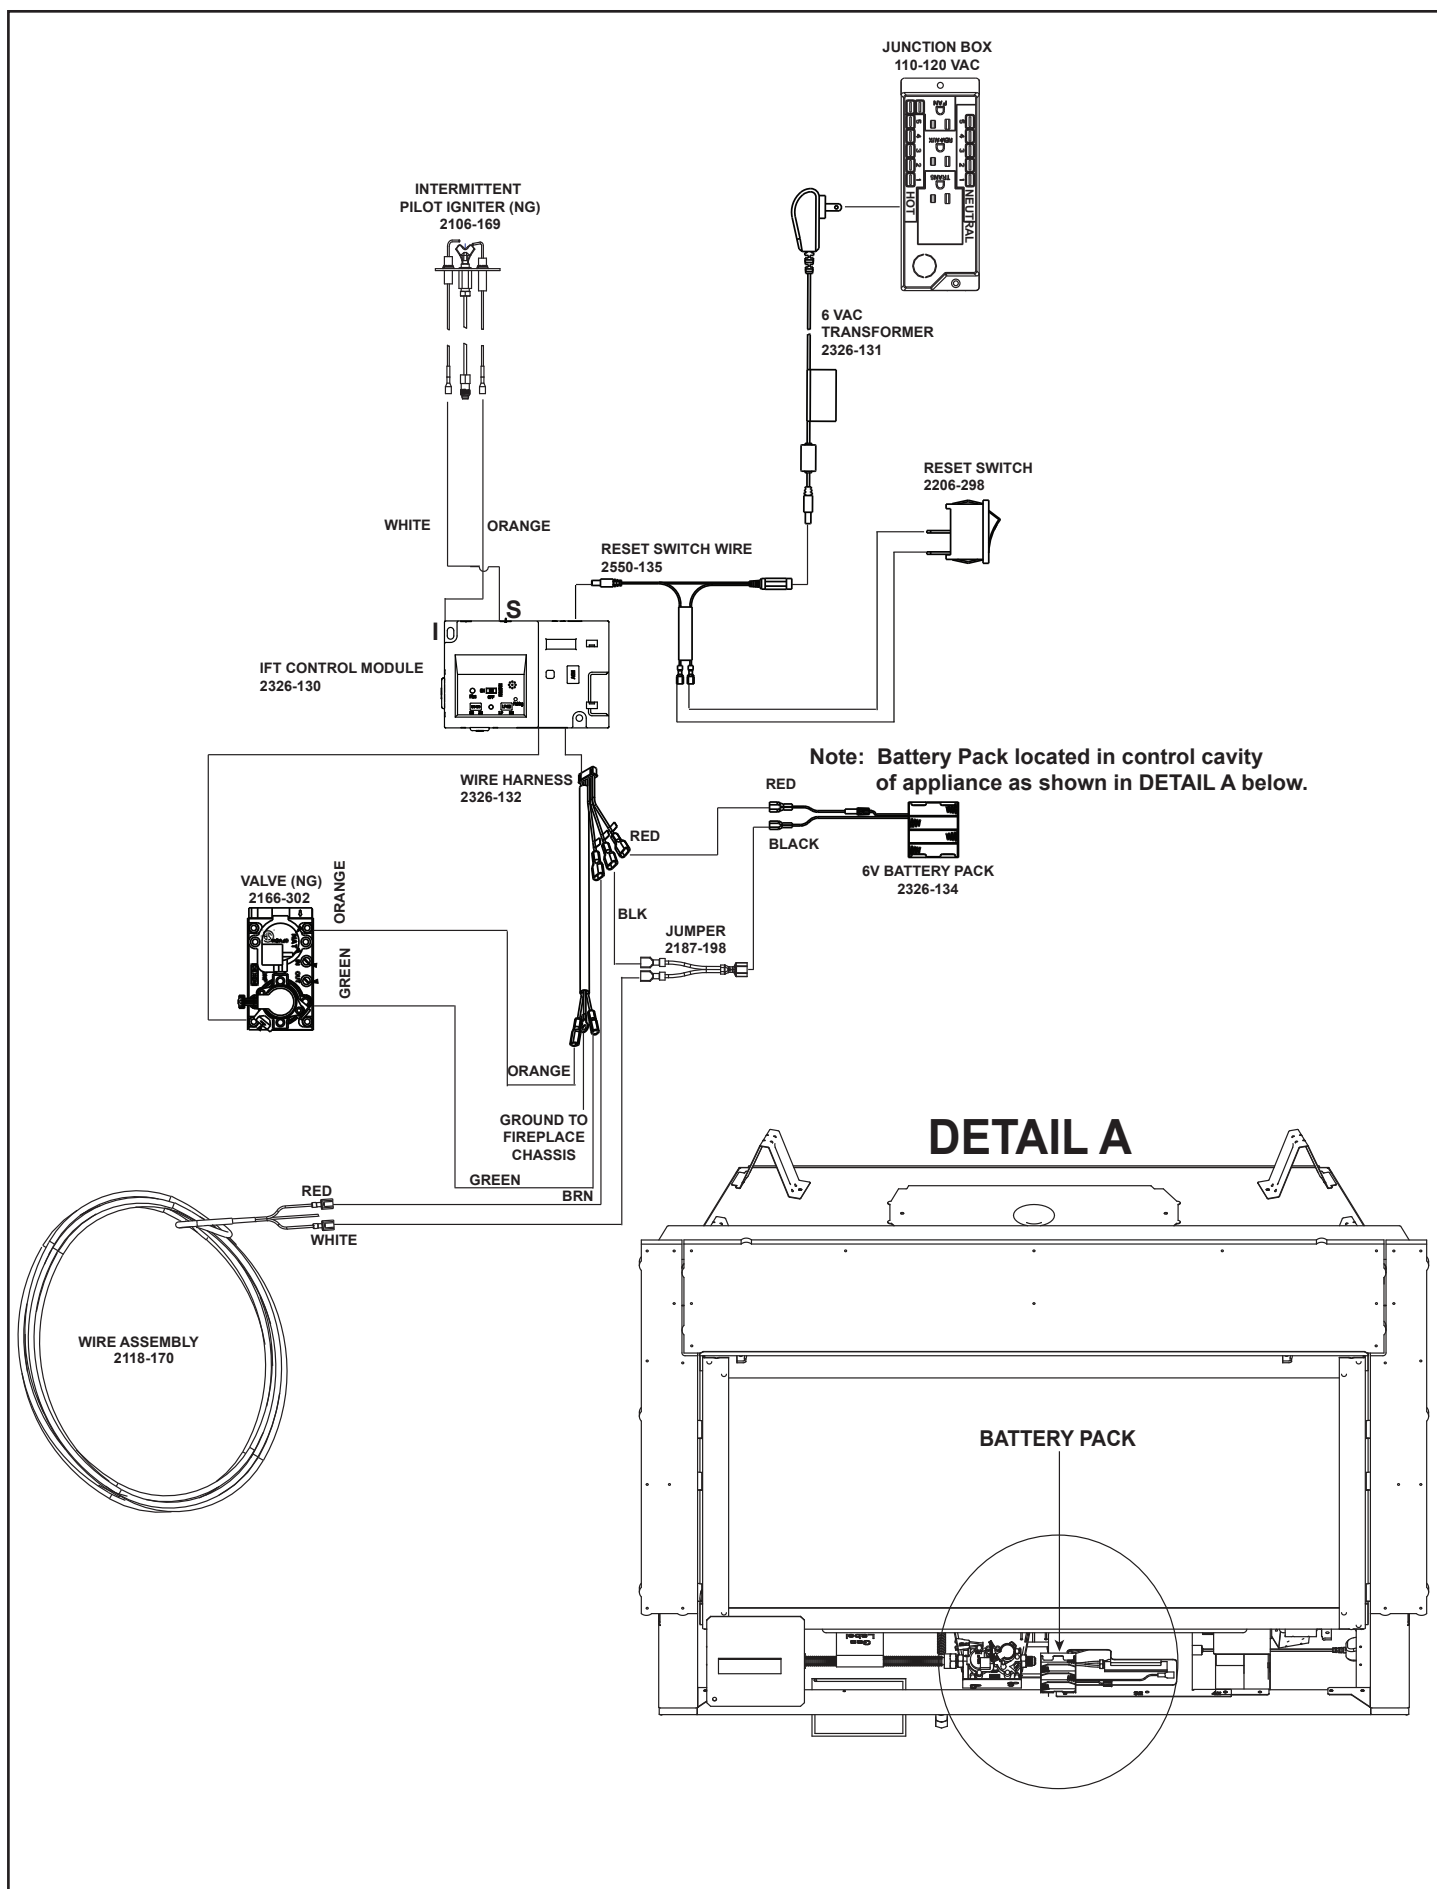

Figure 8.5 Intellifire Touch Wiring Diagram - Standard
- Refer to Figures 8.5, 8.6, and 8.7, IntelliFire Touch (IPI) Wiring Diagrams.